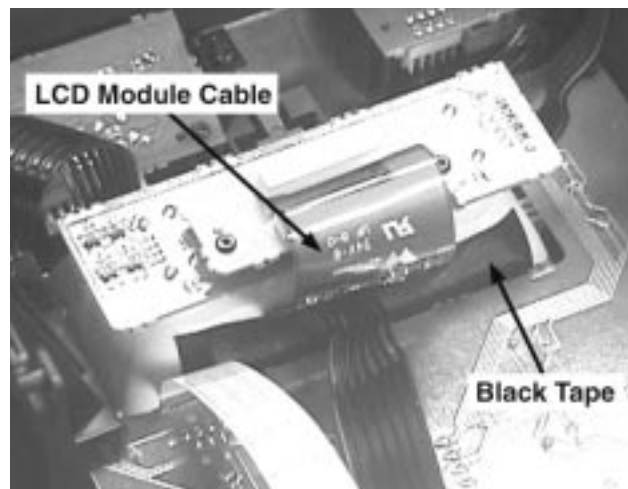
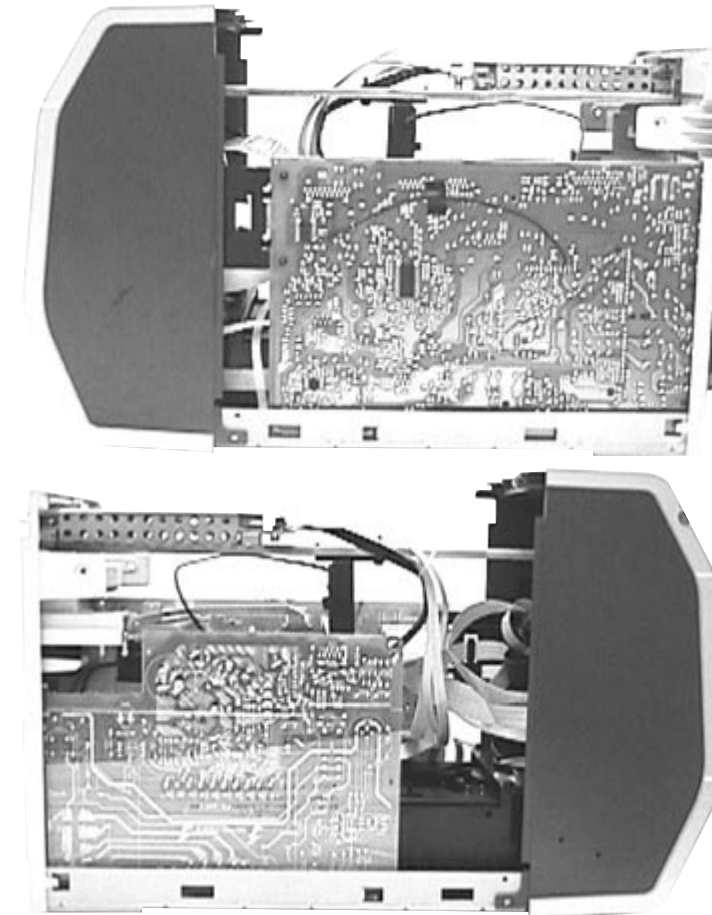
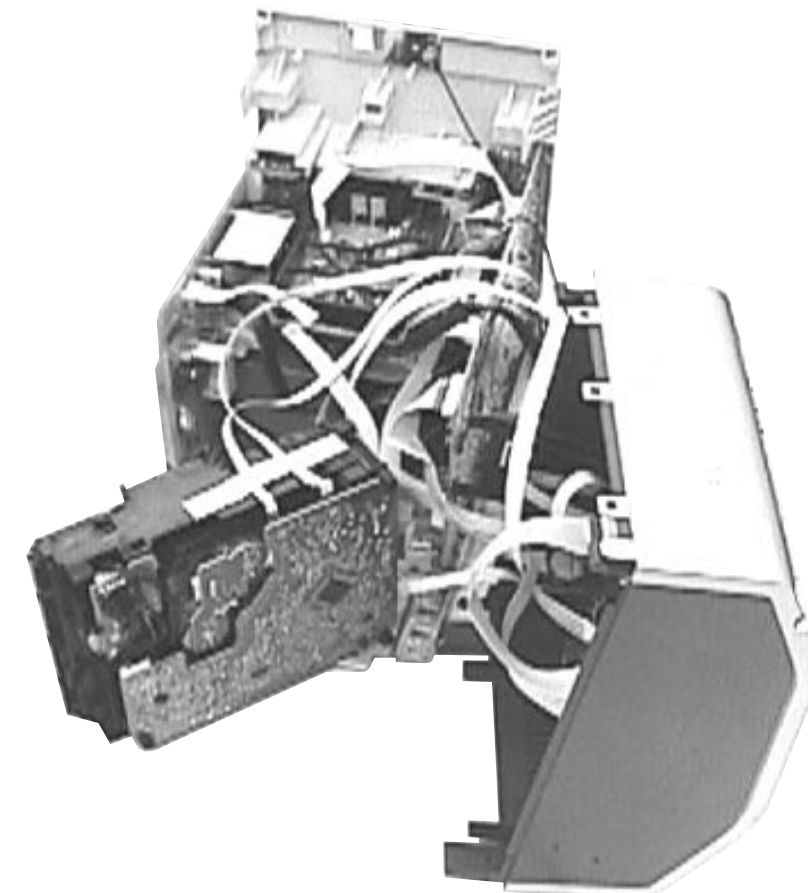

Figure 18
Figure 19
Figure 20
- 2) Care should be taken not to damage or tear the LCD Module Cable during repair (see Figure 18 & Figure 19). The LCD Module Cable may be damage or tear as shown in Figure 20 if too much force is applied when removing the Black Tape during repair.